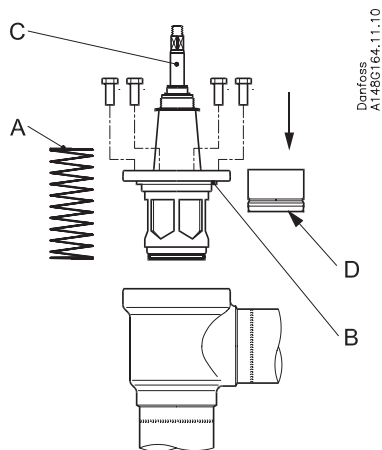

Fig. 8a
**Dismantling the valve (fig. 8a)**
**Assembly (fig. 8a)**